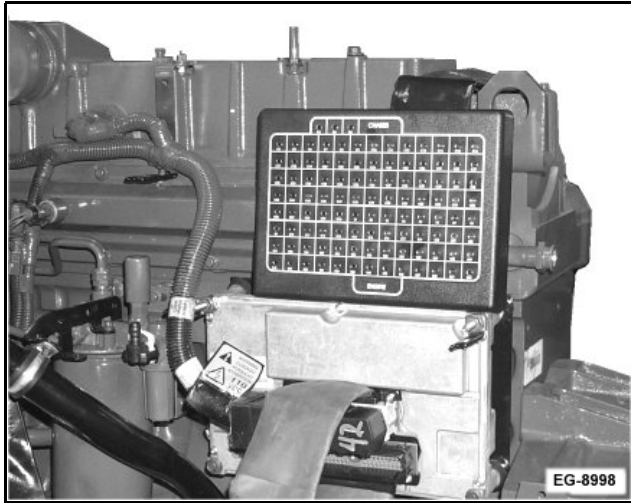

Figure 41 Measuring ECM Voltage with Breakout Box
3. Connect leads of the voltmeter to each test point (21+ & 1-), (22+ & 2-), (24+ & 23-) on the Breakout Box. See Measuring ECM Voltage with Breakout Box (See Figure 41, page 77).